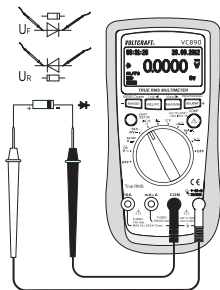

Fig. 6
1. Turn on the DMM and select the measuring range " $\Omega$ ". Press the SHIFT/SETUP button (3) until the diode test symbol  $\rightarrow$  appears in the display.
2. Insert the red test lead in the " $\text{CHzV}\Omega$ " measuring socket (7), the black test lead in the COM measuring socket (8) (Fig. 6).
5. The display shows the continuity voltage "UF" in Volts (V). If "OL" is indicated, the diode is measured in reverse direction (UR) or the diode is faulty (interruption). Perform a measurement with the poles reversed as a control.